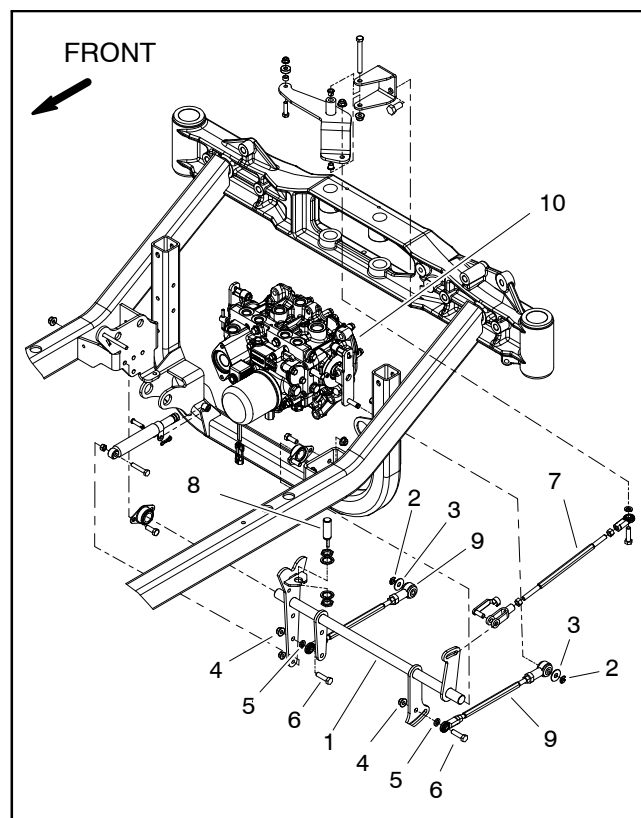

Figure 60
4. On both sides of machine, remove cap screw and flange nut that secures the pump control arm to the speed control shaft (Fig. 60). Note that cap screw is installed toward the right side of the machine. Locate and retrieve lock washer from between control arm and control shaft.
13. Locate and note location of two (2) dowel pins from transmission and flywheel housing.
14. On both sides of transmission, remove retaining ring that secures pump control arm onto transmission control arm (Fig. 60). Slide control arm from transmission control arm.
4. Slide both pump control arms onto transmission control arms and secure with retaining rings (Fig. 60).
6. Carefully place two (2) dowel pins in flywheel housing. Make sure that dowel pins are perpendicular to face of housing during installation.
8. Secure transmission to the flywheel housing with seven (7) cap screws and lock washers. Make sure that shorter cap screw is installed in proper location. Torque cap screws **400 in-lb (45 N-m)**.
10. On both sides of machine, secure the pump control arm to the speed control shaft with cap screw and flange nut (Fig. 60). Make sure that lock washer is between control arm and control shaft and also that cap screw is installed toward the right side of the machine.